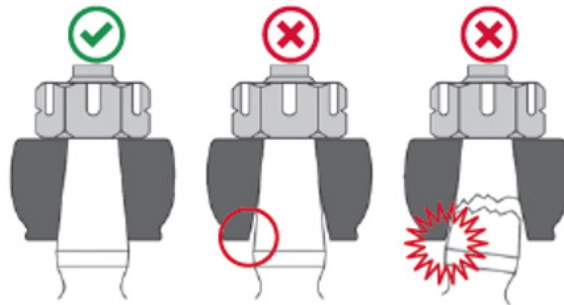

Figure 1
- If a broken, bent or loose ball joint stud is discovered, the knuckle must be replaced. If there is deformation, an out-of-round condition or damage to the tapered mating surfaces of the steering knuckle, it must be replaced. **See Figure 1.**